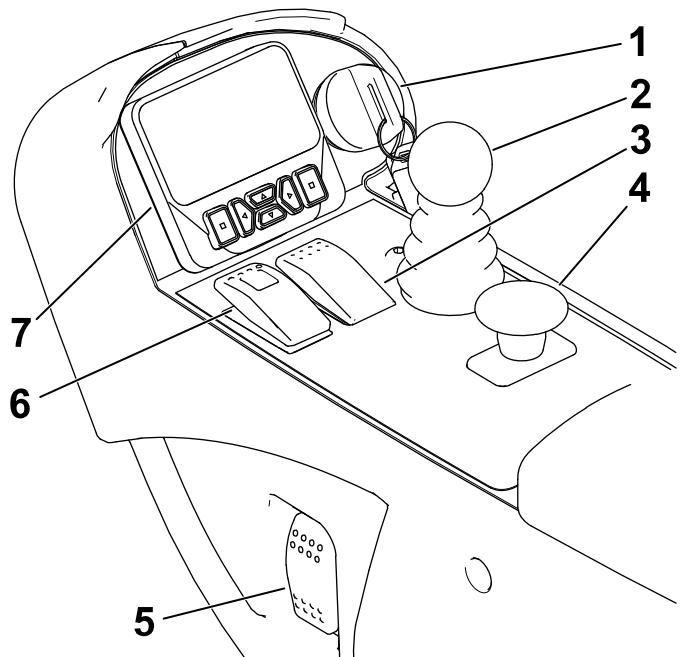

Figure 11
**Note:** In emergency braking situations, remove your foot from the traction pedal and then pivot the parking-brake switch forward (Figure 11).
When the PTO switch is not engaged (Figure 11), the machine is in TRANSPORT mode, which allows you to drive up to 16 km/h (10 mph) when the maximum speed is not limited.
To engage the parking brake, (Figure 11) pivot the switch forward on the console. The red light on the switch turns on when it is set. To release the parking brake, pivot the switch backward.
This lever (Figure 11) raises and lowers the cutting units.
The key switch (Figure 11) has 3 positions: OFF, ON/PREHEAT, and START.
Pivot the switch upward to turn on the headlights (Figure 11).
The InfoCenter LCD display shows information about your machine, such as the operating status, various diagnostics, and other information about the machine (Figure 11).